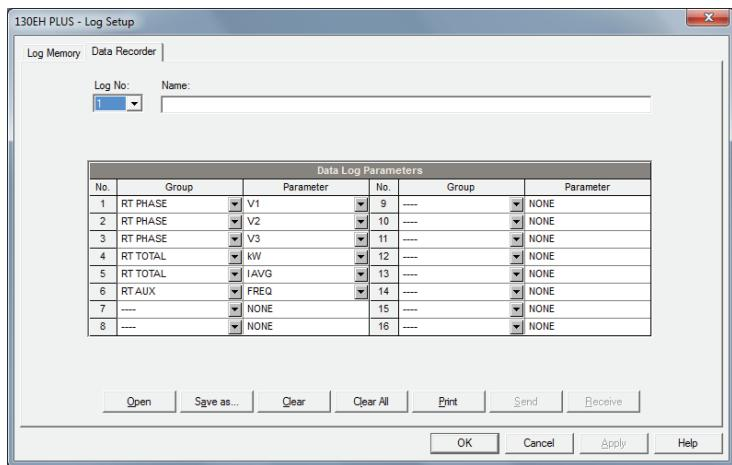

Figure 2 : Data Log Configuration (PAS Software Screenshot)
2. Data log #1 was set as shown in Figure 2